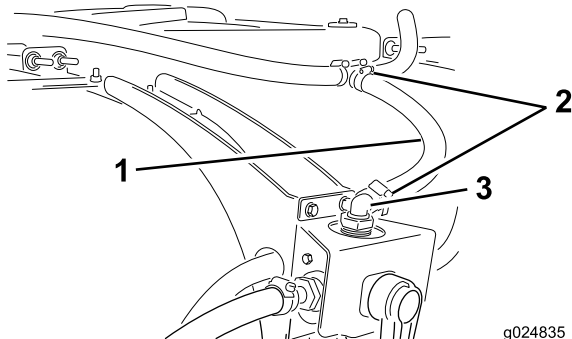

Figure 30
3. Install the hose to the open end of the tee fitting installed previously (Figure 30).